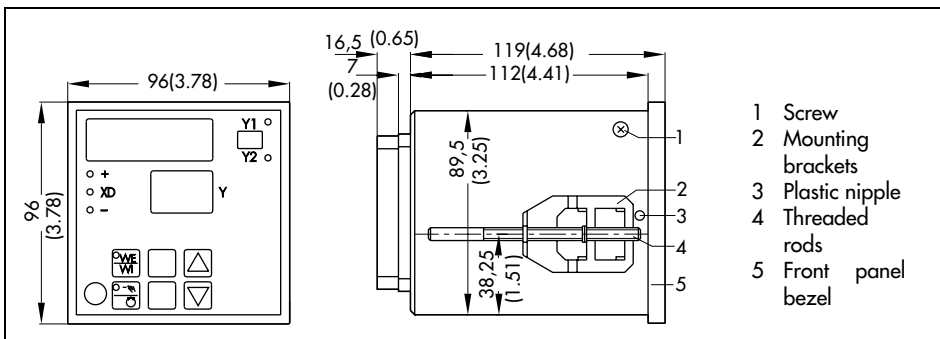

Fig. 1 · Dimensions of the controller case
3. Insert the two supplied mounting brackets in either the left and right (or top and bottom) openings provided in the case (see Fig. 1).